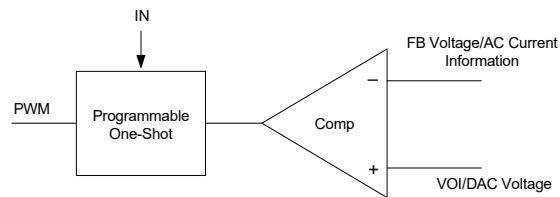

Figure 8. Simplified Control Schematic
The control algorithm of AOZ2338CQI-01 is constant-on-time PWM control with input feed-forward. The simplified control schematic is shown in Figure 8. The high-side switch on-time is determined solely by a one-shot whose pulse width is inversely proportional to input voltage (IN). The one-shot is triggered when the internal VOI/DAC voltage is higher than the combined information of output voltage and the AC current information of inductor, which is processed and obtained through the sensed low-side MOSFET current once it turns-on. The added AC current information can help the stability of constant-on time control even with pure ceramic output capacitors, which have very low ESR. The AC current information has no DC offset, which does not cause offset with output load change, which is fundamentally different from other V^2 constant-on time control schemes.